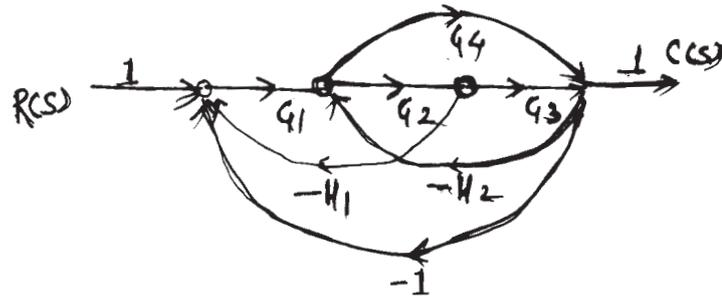

Fig 3
- b) Find the transfer function of the system whose signal flow graph is shown in fig. 3. [8]